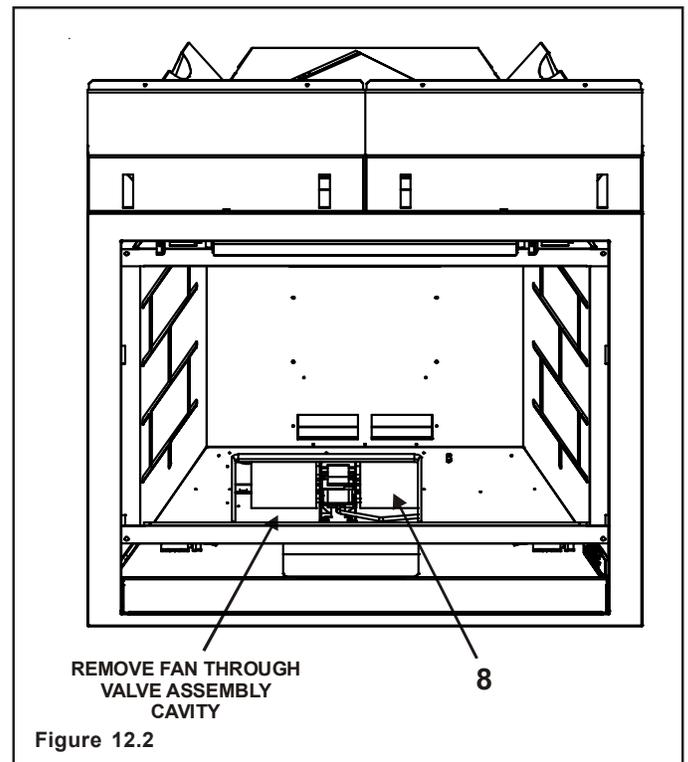

Figure 12.2
- 8 - Disconnect fan and remove it through the valve assembly cavity (see Figure 12.2).